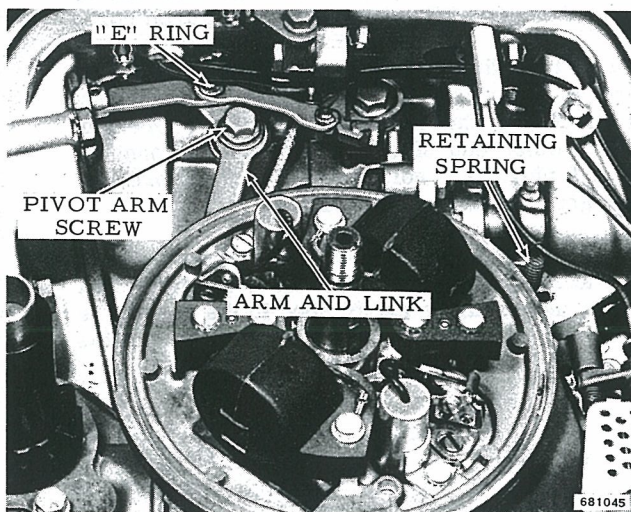

Figure 4-5. Removing Magneto Arm and Link
d. Remove "E" ring retainer and pivot arm screw from magneto arm and link. See Figure 4-5.